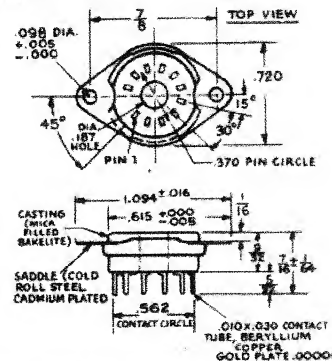

FIG. 8 CONTACT SOCKET ASSEMBLY SK 116 FOR MINIATURE TUBES
- Note 2** See Fig. 8. The tube socket is oriented with respect to the viewing position so that A-A', intersecting the